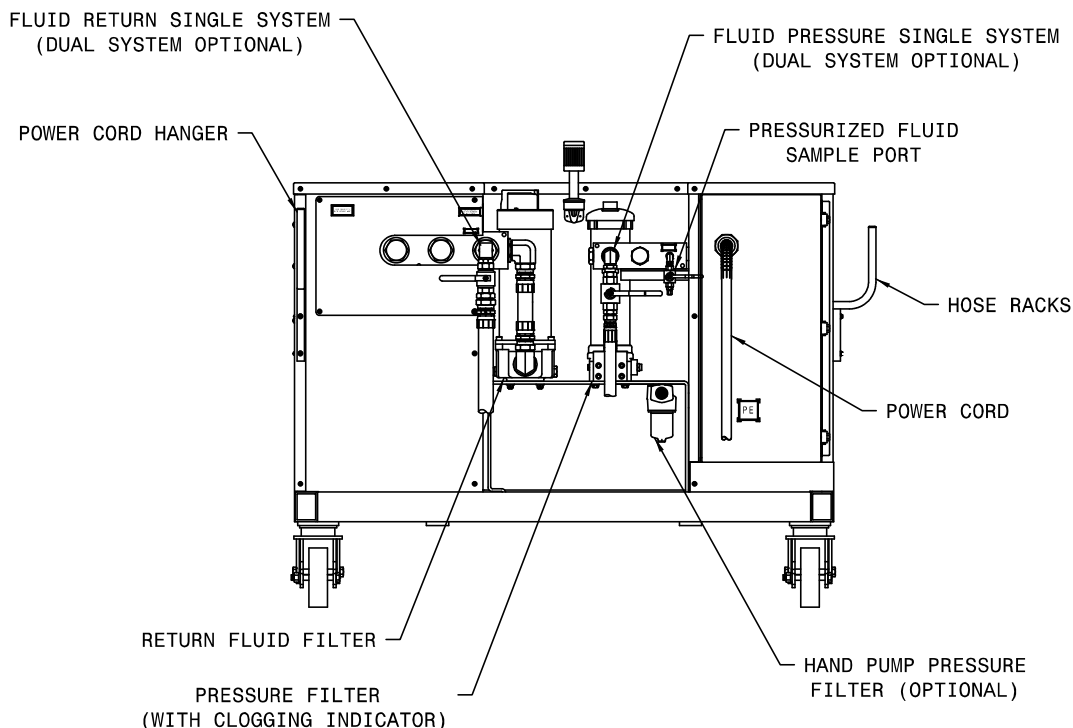

FIGURE 6.3.4 – Rear Control Panel
- Close the fluid pressure ball valve(s) at the rear of the HPU. Reference **Figure 6.3.4** for location of ball valve.